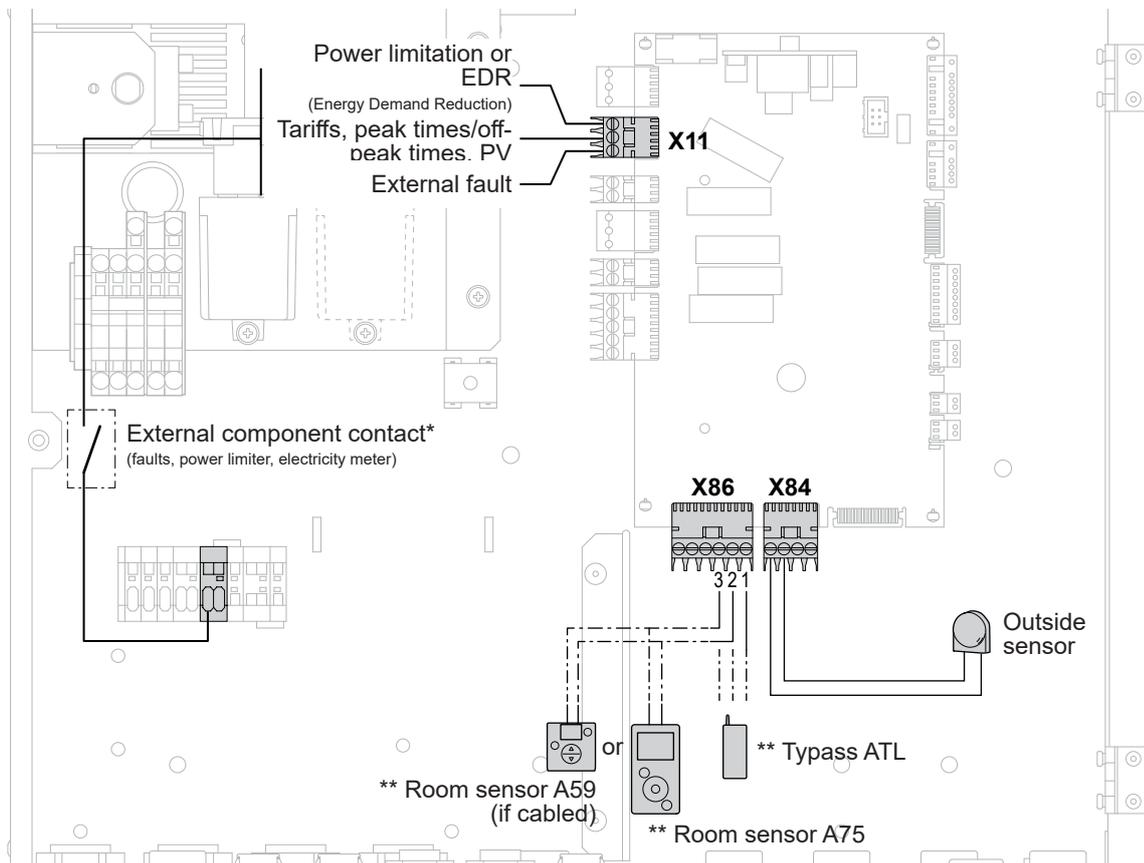

fig. 46 - Connections on the heat pump controller (accessories and options)
- Make the connections according to the diagram (fig. 46, page 45).
- Connect the "Power Provider" contact to input EX2 (fig. 46, page 45).
- Connect the power limiter device to input EX1 (fig. 46, page 45). Heat pump and DHW backups will be shut off in the event of over-consumption by the dwelling.
- Connect the external component to input EX3 (fig. 46, page 45).
- Connect the outdoor sensor to connector **X84** (fig. 46) (terminals **M** and **B9**) on the heat pump control board.
#### • Room sensor A59 (if cabled) (fig. 46)
#### • Room sensor A75 (fig. 46)
- Connect the Typass ATL to connector **X86** (fig. 46) on the HP control board using the connector provided (terminals **1**, **2** and **3**).